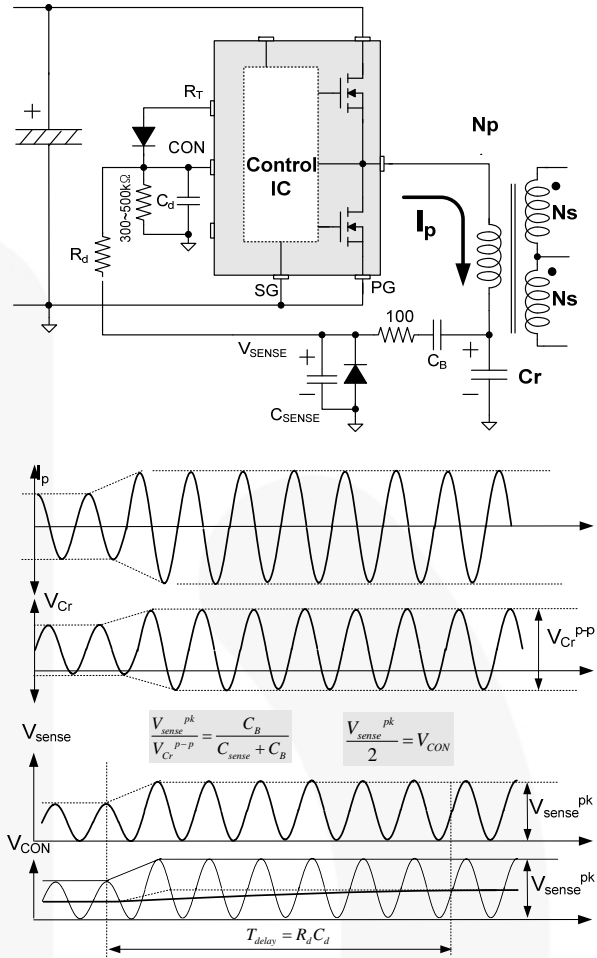

Figure 26. Current Sensing Using Resonant Capacitor Voltage
To minimize power dissipation, a capacitive voltage divider is generally used for capacitor voltage sensing, as shown in Figure 26.
6.5 Overload Protection (OLP): Overload is defined as the load current exceeding its normal level due to an unexpected abnormal event. In this situation, the protection circuit should trigger to protect the power supply. However, even when the power supply is in the normal condition, the overload situation can occur during the load transition. To avoid premature triggering of protection, the overload protection circuit should be designed to trigger only after a specified time to determine whether it is a transient situation or a true overload situation. Figure 26 shows a typical overload protection circuit. By sensing the resonant capacitor voltage on the control pin, the overload protection can be implemented. Using RC time constant, shutdown delay can be also introduced. The voltage obtained on the control pin is given as: